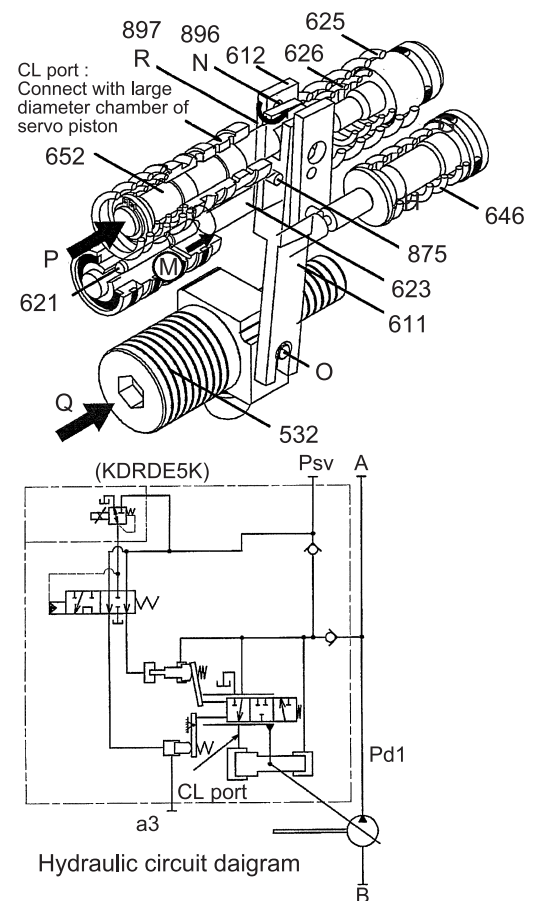

Fig. 24-14
- a. Overload prevention operation (See Fig. 24-14)